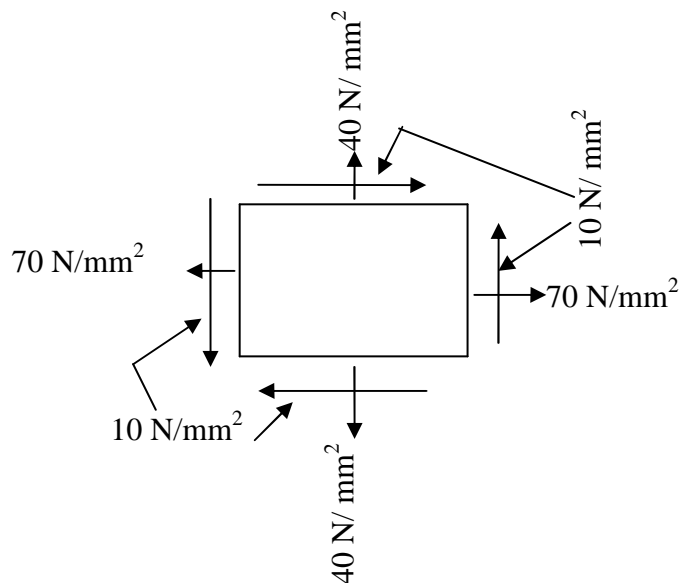

Fig.10 Q-5(b) OR
- (b)** For an element shown in fig.10 find: (i) principal stresses and location of corresponding principal planes. (ii) Maximum shear stress and location of planes containing it. **08**